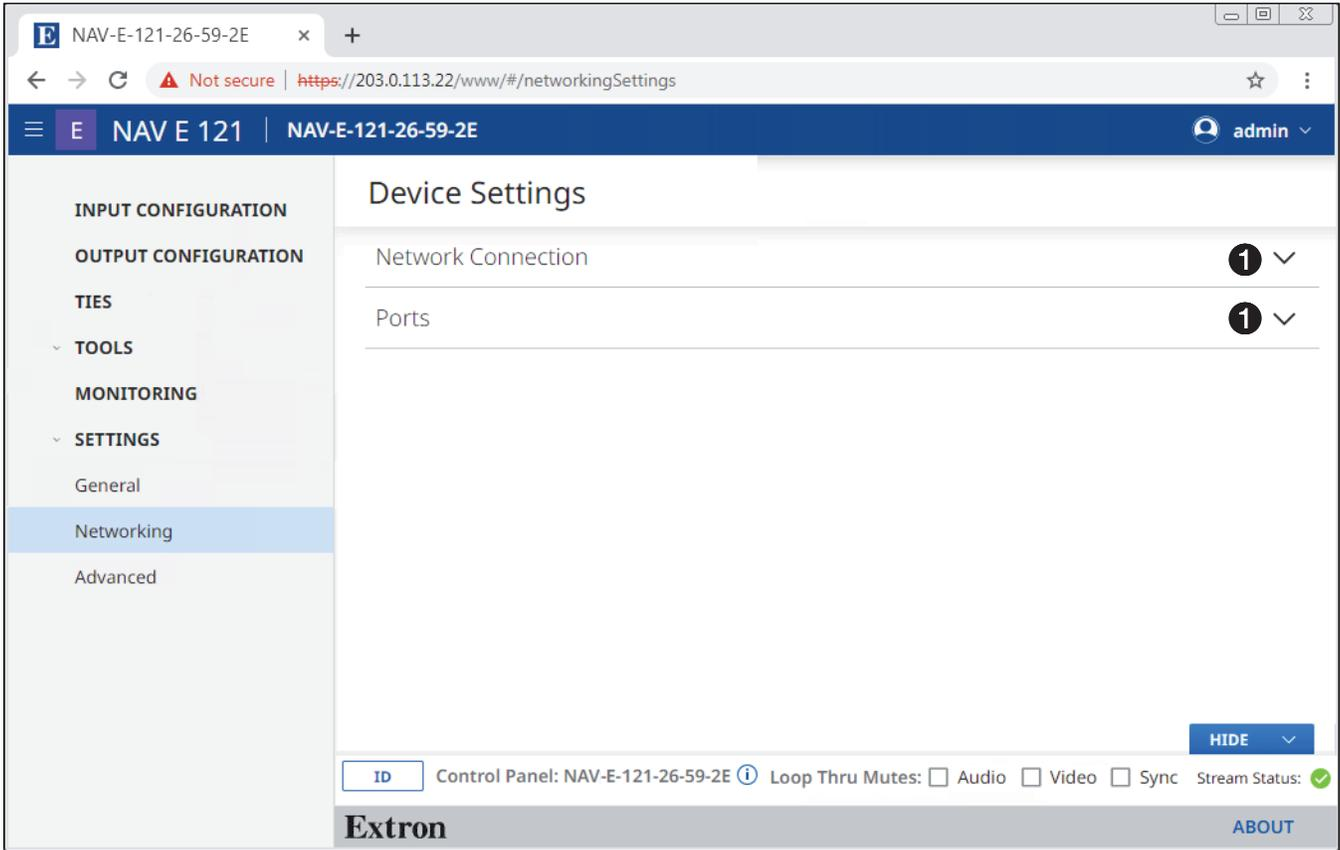
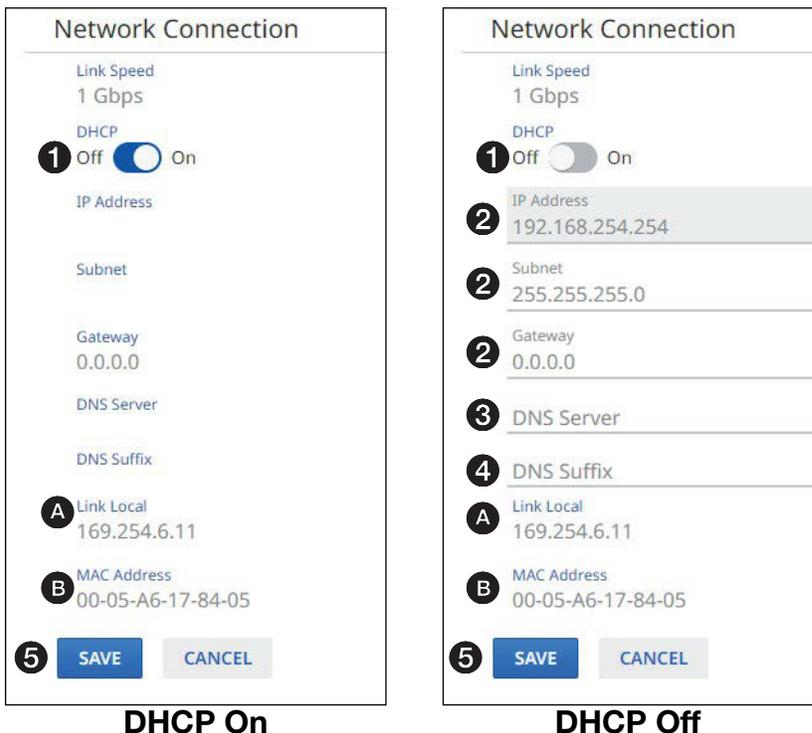

Figure 45. Networking Settings Page
Figure 47. Editable Network Connection Pane
On the Networking Settings page (see figure 45), click the down arrow (1) to open a drop-down list (see Network Connection page on page 45 or Port page on page 47).
The Network Connection selection on the Networking Settings page (see figure 45 on page 44) opens a read-only pane that shows the connection variables of the encoder (see figure 46). DHCP, IP Address, Subnet, Gateway, DNS Server, and DNS Suffix can be edited by clicking the **EDIT** button (❶). An editable pane opens (see figure 47 on page 46).
The **Ports** selection on the **Networking Settings** page (see **figure 45** on page 44) opens a read-only pane that shows the port usage parameters of the encoder (see **figure 48**). The **HTTPS** and **RTP Start** parameters can be edited by clicking the **EDIT** button (1). This feature gives the flexibility to use specific ports of your choosing, if the default ports are in use. An editable version of the selection opens (see **figure 49**).